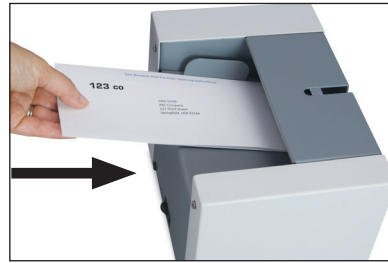

Fig. 2
3. Insert into the infeed deck (fig. 2). The FD 1000 seal rollers will automatically draw in the form and seal it.